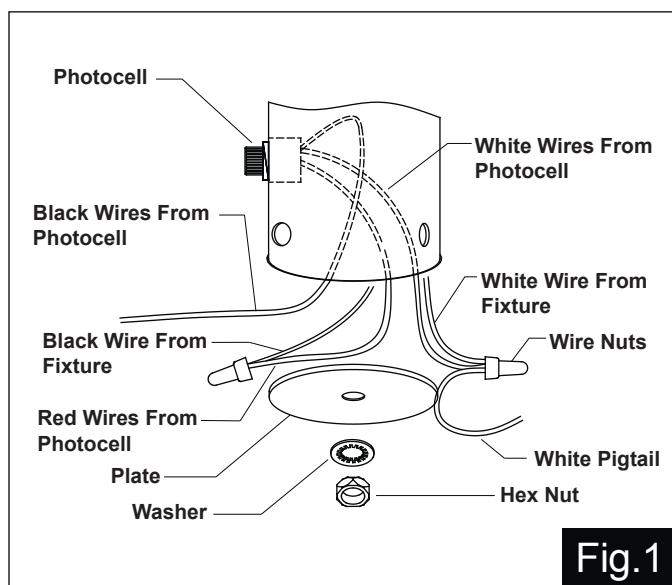

Fig.1
2. Loosen the wire nuts connected with the wires from photocell. (See Fig.1)